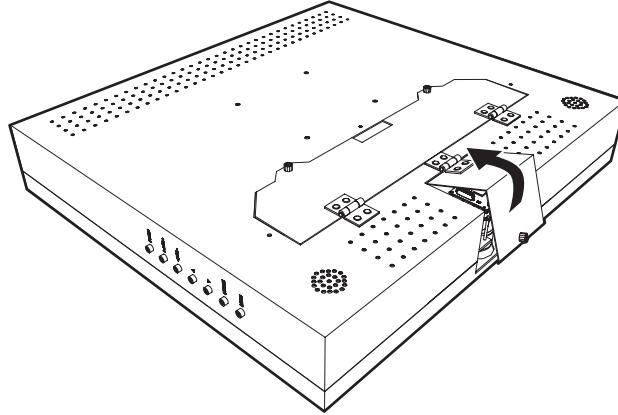

Figure 2. Access Door
2. Use the thumbscrew on the bottom of the monitor to open the access door, refer to Figure 2.